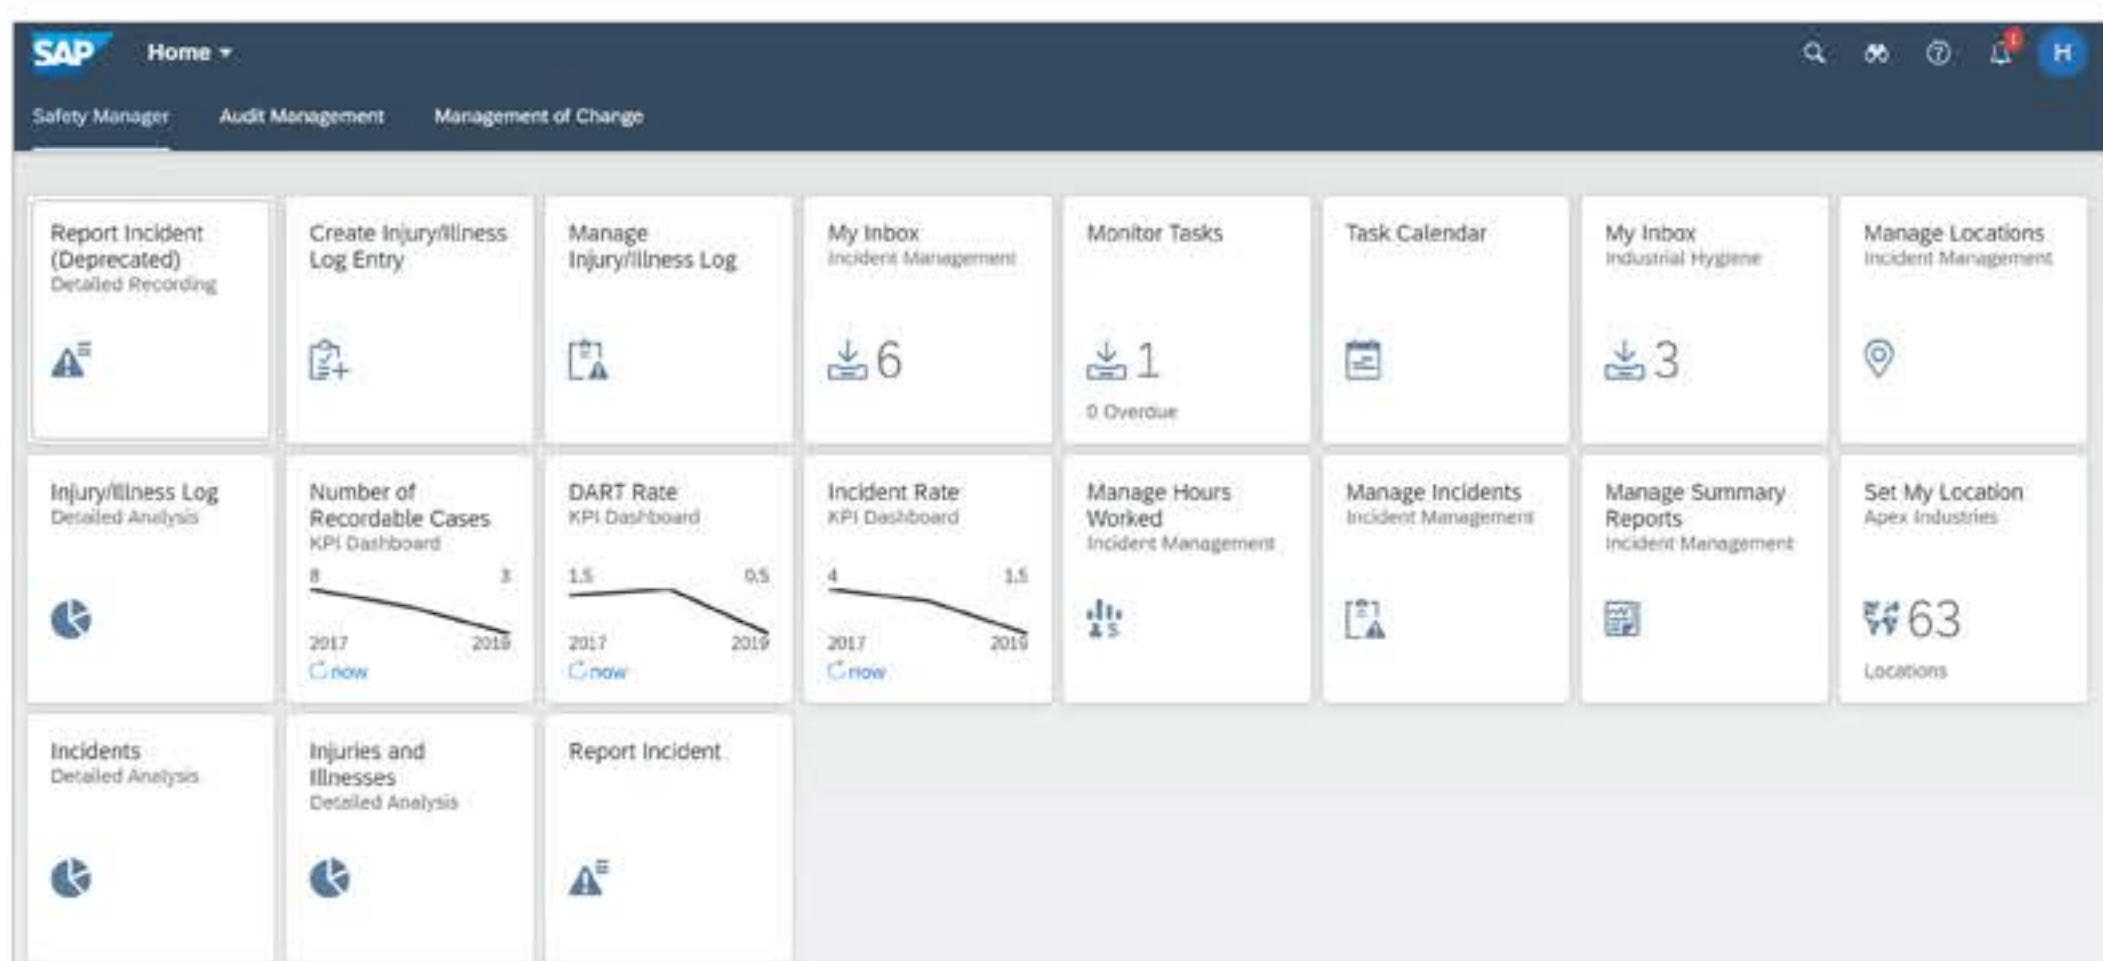

Figure 1.3 Typical SAP Fiori Launchpad for Users of SAP EHS Management, Incident Management
In SAP S/4HANA, SAP EHS Management leverages various technical improvements along with additional functionality. Some of these are part of the application architecture, but many are features of the SAP S/4HANA platform that the users of SAP EHS Management can take advantage of. First and foremost, the entire user experience is now based on the SAP Fiori user experience (UX) standards, which offers a tile-based, role-based launchpad to access SAP functions, instead of transaction codes. Most of these tiles are “live” and have dynamic data showing right in the launchpad. A good example is the Incident Rate app, which shows the result of a real-time incident rate calculation each time you log in to the system. Tiles can open transactional and data entry screens, analytical views, and specialized apps like My Inbox, which will show a user all of the inbound workflows and notifications coming to them. Within the SAP EHS applications, you’ll see that some screens still have the structure of a Web Dynpro application based in the older SAP ERP platform, but an SAP Fiori “skin” to match newer screens—these are holdovers from the migration of functionality from that older platform to SAP S/4HANA. Over time, all of this functionality is planned to be replaced with native SAP Fiori UX. SAP EHS Management adheres to the latest SAP Fiori 2.0 standards. See Figure 1.3 for an example of a SAP Fiori launchpad for a user accessing SAP EHS Management, incident management.